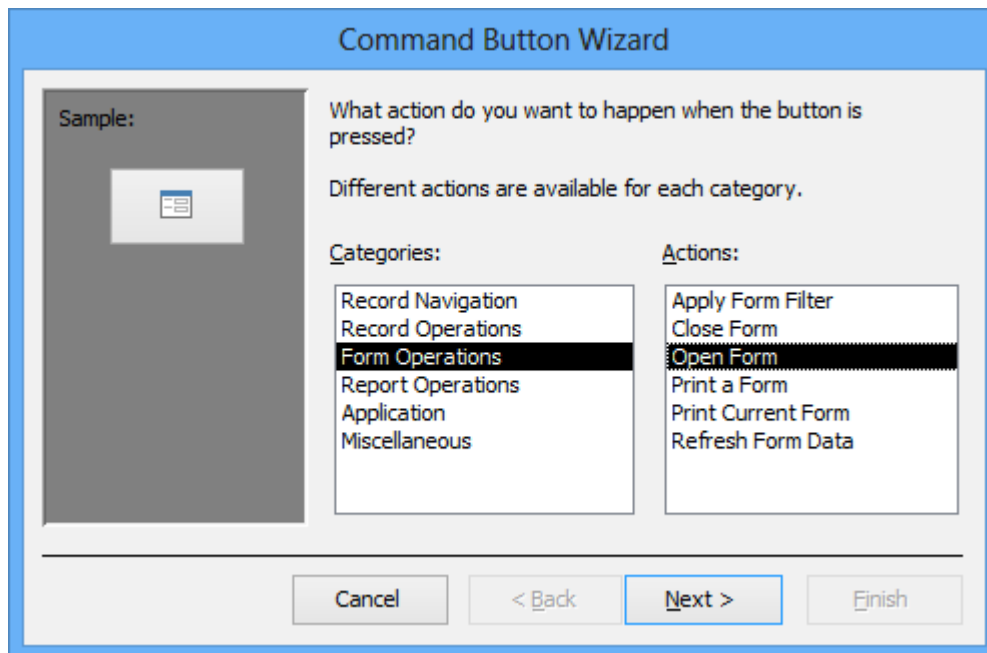

Figure 20: First Window of the Command Button Wizard
10. Select Command Button Action: The first wizard window (Figure 20) asks you to choose a category and an action. In the *Categories* column select “Form Operations” and in the *Actions* column select “Open Form” and click **Next**.